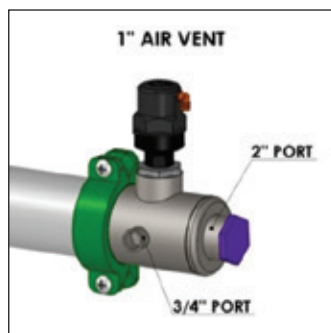

FIGURE 6
- On 16", 20" and 24" media filters, the 1" Air Vent is installed with a reducer and an elbow into the 2" port of the inlet manifold cap. The 2" port in the outlet manifold cap is plugged. (See Figure 6)